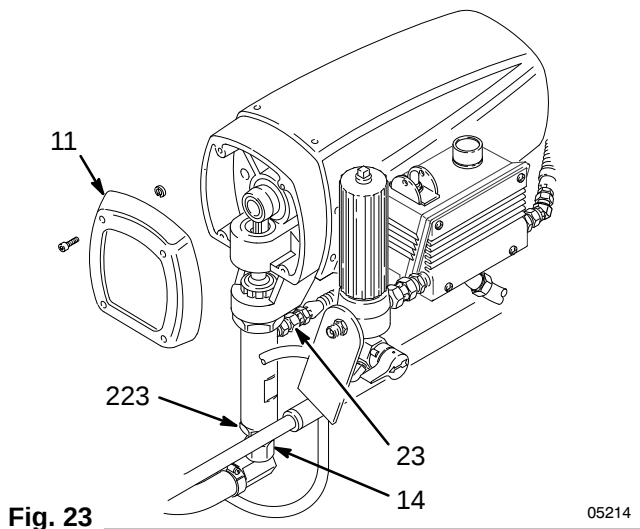

Fig. 23
Displacement Pump Repair (Fig. 23 – 32)
2. Remove the front cover (11). See Fig. 23
3. Unscrew the suction tube (14) from the pump, holding a wrench on the pump intake valve (223) to keep the pump from loosening. See Fig. 23
4. Disconnect the pump outlet hose (23). See Fig. 23